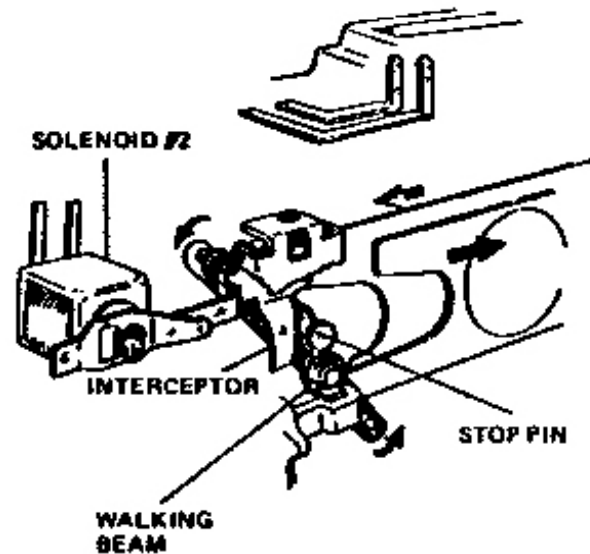

Figure 2-9 A Solenoid S2 operation
4. Installing a flash bar in the camera flash socket switches the ECM to the flash mode. As previously explained, at a point in picture taking sequence (flash mode), solenoid #2 is energized. Fastened to the plunger is pull down bar. when the plunger pulls this bar down, it moves the interceptor into the position where it will intercept a pin (the stop pin) on the walking beam (Figure 2-9 A). Now when the shutter blades move towards the open position, they will be interrupted by the mechanism just described which means the maximum size of the blade opening (aperture) is determined by the focus setting of the camera. As the camera (and thus the flash lamp) is moved closer to the subject, the maximum aperture is reduced so that a correct exposure will result. The reverse (greater distance/greater aperture) is also true.